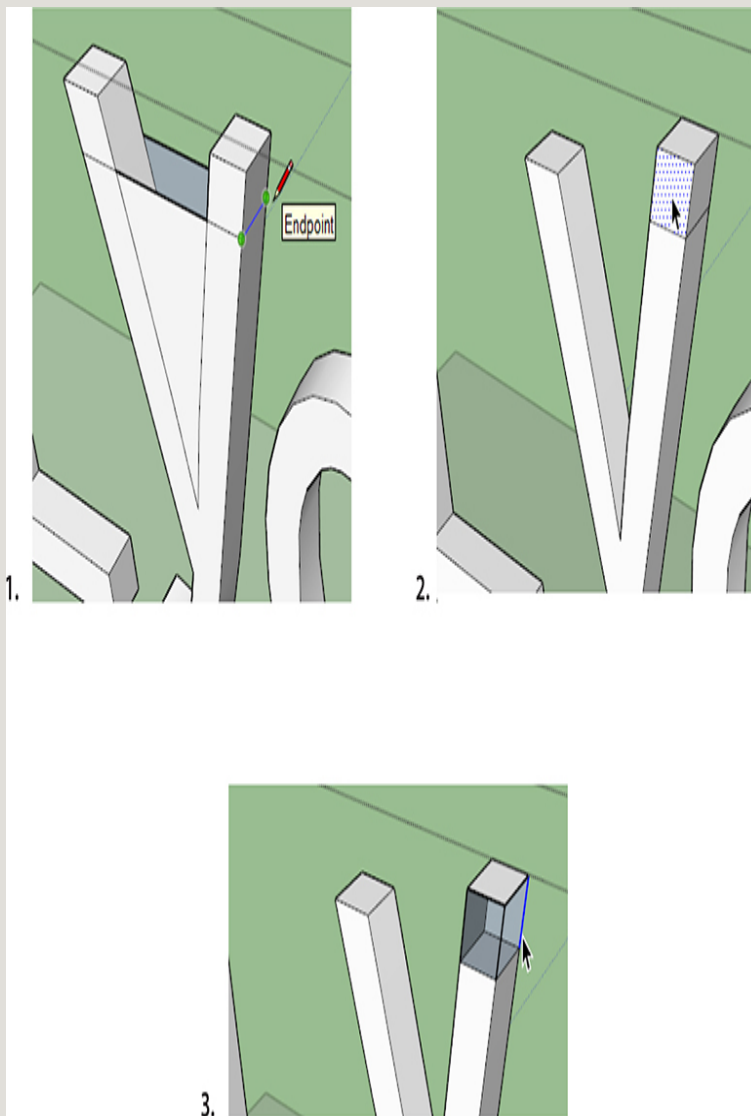

Figure 3-24 Shorten the top of the "y" by drawing lines on it and deleting everything above the lines.
7. Shorten the top of the "y" (Figure 3-24). It looks a little tall, so we'll delete a portion at the top. With the Pencil, trace a line around the whole letter. When you draw a line on a face, you break the face. It becomes two faces, and you can edit them independently. Click on the faces and edges above the line you just drew, and hit the DELETE key. Remember that if you hold the SHIFT key down while selecting them, you can select and delete all of them at once.